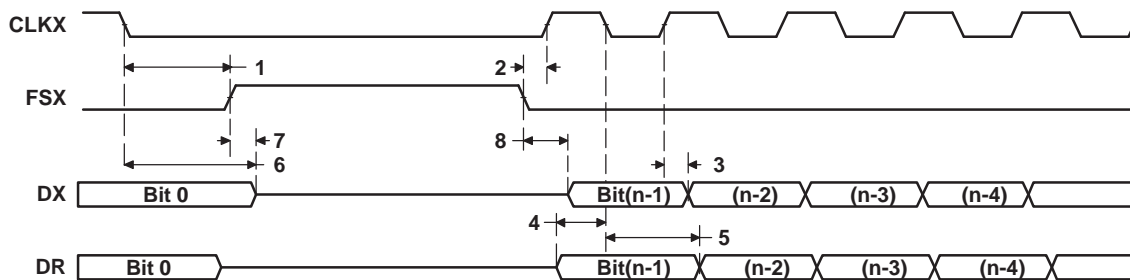

Figure 5-43. McBSP Timing as SPI Master or Slave: CLKSTP = 11b, CLKXP = 1
5.12.6 Timing Requirements for McBSP as SPI Master or Slave: CLKSTP = 11b, CLKXP = 1⁽¹⁾ ⁽²⁾(see Figure 5-43)